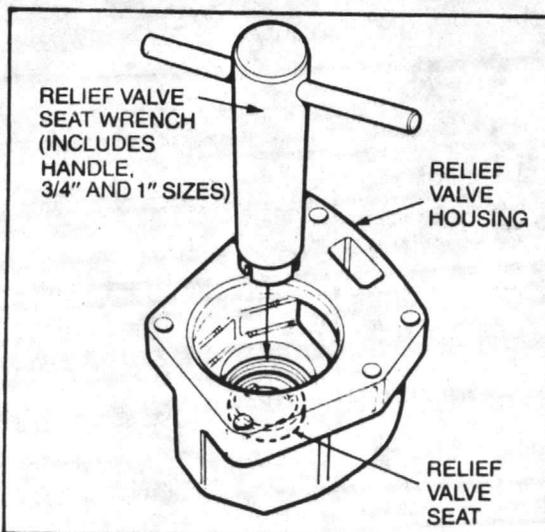

Figure 9A. RELIEF VALVE SEAT REPLACEMENT FRP-I
6. To remove seat, insert wrench and turn counterclockwise. (See Fig. 9A, 9B).